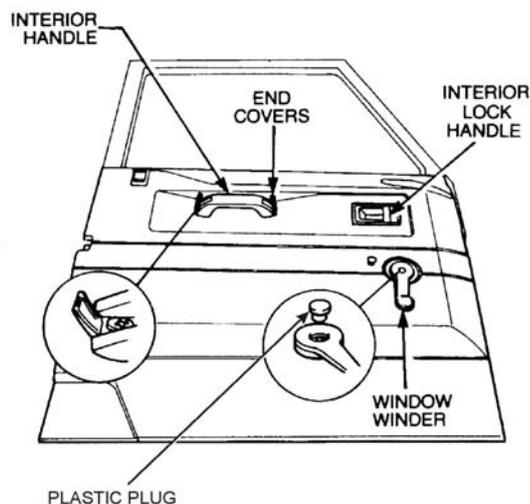

Figure 211 Window Winder Handle Removal
- a. Prise the plastic cover from the window winder handle (Figure 211).
- d. Using a small screwdriver, prise the end covers from the interior handle (Figure 211).